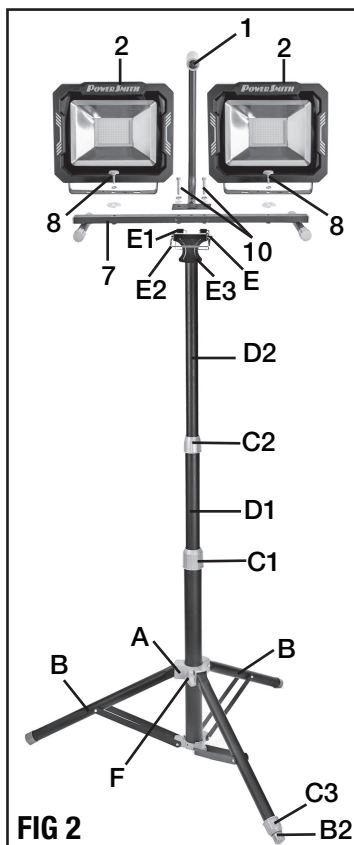

FIG 2
SET UP AND ADJUST THE TRIPOD (FIG 2)
ATTACH THE CARRYING HANDLE TO THE STAND (FIG 2)
1. Place the carrying handle (1) vertically on the stand (7).
2. Use two hex screws (10), flat washers and spring washers to secure the carrying handle on the stand as shown in FIG 2.
ATTACH THE WORK LIGHT HEADS TO THE STAND (FIG 2, 3)
1. Place the stand (7) on a flat surface.
2. Use the locking knobs (8), flat washers and spring washers to secure both work light heads on the sides of the stand as shown in FIG 2.
ATTACH THE WORK LIGHT ASSEMBLY TO THE TRIPOD (FIG 2, 4)